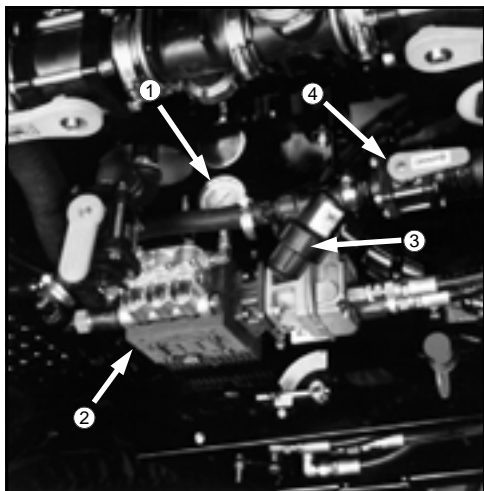
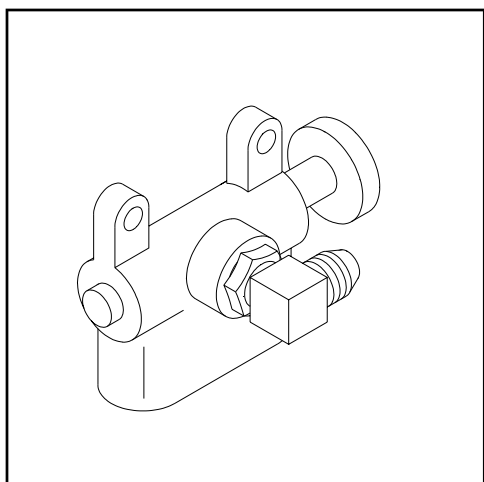

FIG 5.52
FIG 5.53
**OPERATING** – To operate the pressure washing system, leave the engine running between 1000 and 1200 RPM. Turn the parking brake on (see page 30). The rinse supply valve for the pressure washer (fig. 5.52, item 4) may remain open unless operating the solution tank rinse system. Close it before you activate the rinse system (see page 53). Activate the pressure washing pump (fig. 5.52, item 2) with hydraulic valve (fig. 5.53) mounted next to the hydraulic gear pumps.
Spray pressure is indicated by the gauge mounted above the pressure pump (fig. 5.52, item 1).
**MAINTENANCE** – Remove and inspect in-line filter (fig. 5.52, item 3) occasionally and clean it as required.